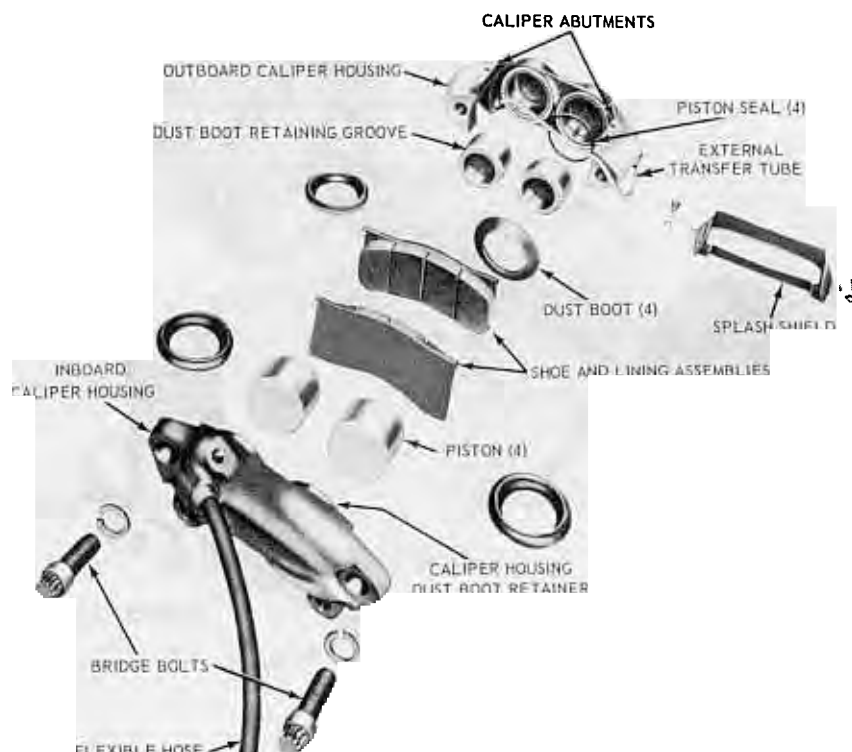

FIG. 35—Caliper Assembly—Disassembled
Do not remove the bridge bolts that hold the two halves of the caliper together. The two caliper housings are shown separated in Fig. 35 for illustration purposes only.
2. Remove the two retaining bolts and the caliper splash shield Fig. 35.
cocking, tap the end of the piston lightly around the circumference with a hammer, while the prying force is being applied. Be careful to avoid damaging the dust boot retainer in the caliper housing (Fig. 35). If this method of removal is used, the pistons must be replaced.
Clean all metal parts with alcohol or a suitable solvent (Fig. 35). Use clean, dry compressed air to clean out and dry the grooves and passageways. Be sure that the caliper bore and component parts are completely free of any foreign material.
5. Carefully install four new dust boots on the caliper housings and pistons. Be sure that each boot is fully seated in the groove of its respective caliper housing and piston (Fig. 35). **Do not use the old dust boots.**